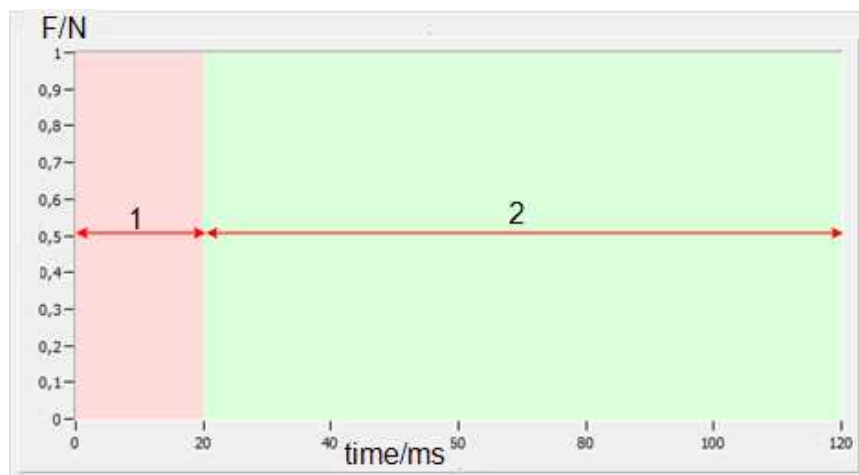

Fig. 12-4: Example of configuration of the measuring time
see Fig. 12-4, it shows an example with a delay (ABZ) of 20 ms and a measuring time (MZ) of 100 ms.